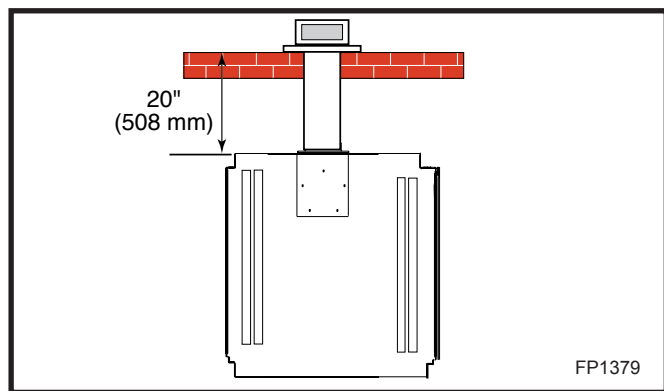

Fig. 16 Rear vent application, no elbows.
- Specific rear vent starter kits must be used in these applications (see 'Venting Components'). The appliance has been approved for installation flat against a rear wall. (Fig. 16)
- The maximum horizontal distance between the rear of the appliance and the outside face of the rear wall is 20" (508mm). (Fig. 16)